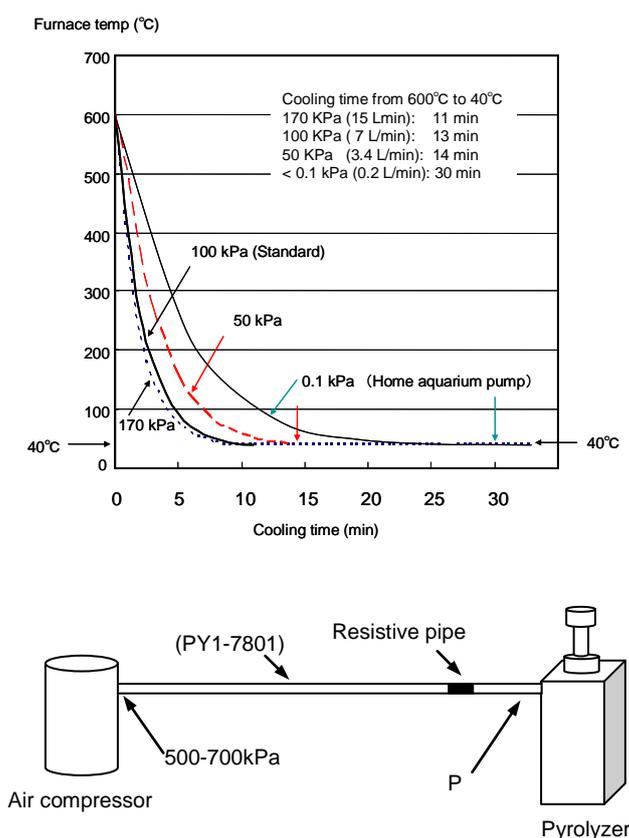

Fig. 2.1 Relationship between pyrolyzer furnace temperature and cooling time when varying cooling air pressure (ambient temperature: 20°C)
Fig. 2.1 shows the relationship between pyrolyzer furnace temperature and cooling time with varied cooling air pressures. The pressures (P) here are ones measured at the outlet of nylon tube (PY1-7801) that feeds air to the pyrolyzer.